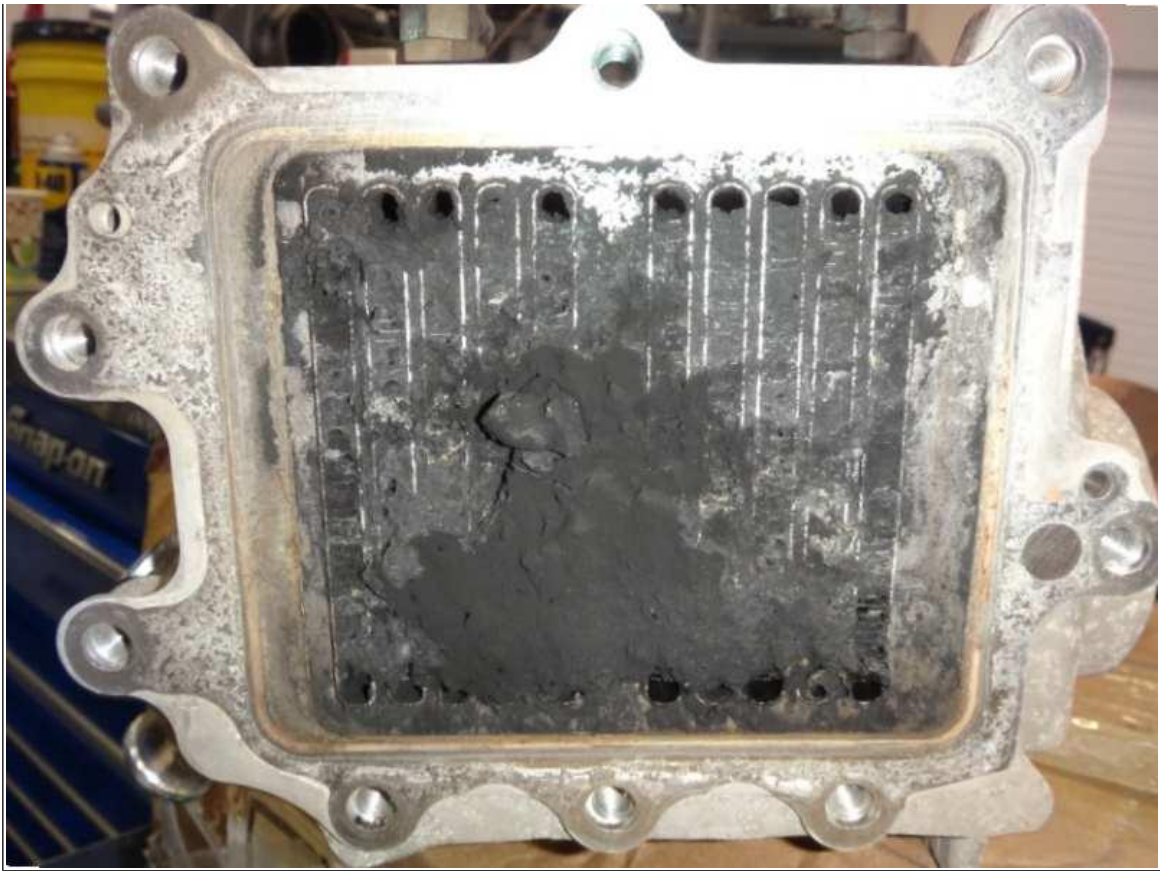

**Figure 9: EGR Outlet Cover, Bolts and Tubes**
19. Remove the four bolts holding the outlet tubes to the front cover--discard the gaskets (**Figure 9**, Item 1).
20. Remove the two bolts holding the engine harness and reposition as necessary, for front cover removal (**Figure 9**, Item 2).
21. Remove the eight bolts and one stud bolt from the front cover, and remove (**Figure 9**, Item 3).